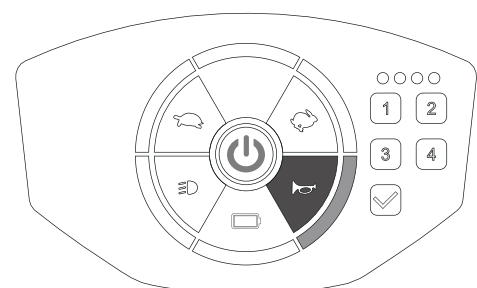

Figure 13
- Press horn button to sound the buzzer. Buzzer sound and light will last until you release the horn button (Figure 13)